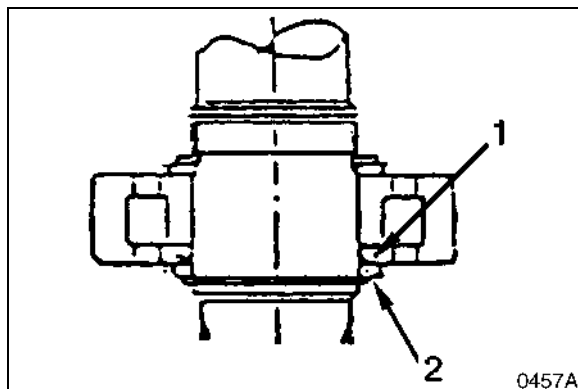

Figure 29
Make sure that bearing raceways (collars) are facing right direction. The drawing shows one side of the bearing collar (1, Figure 29), marked "R," which should be assembled next to spacer (2) on lower end of drive shaft.